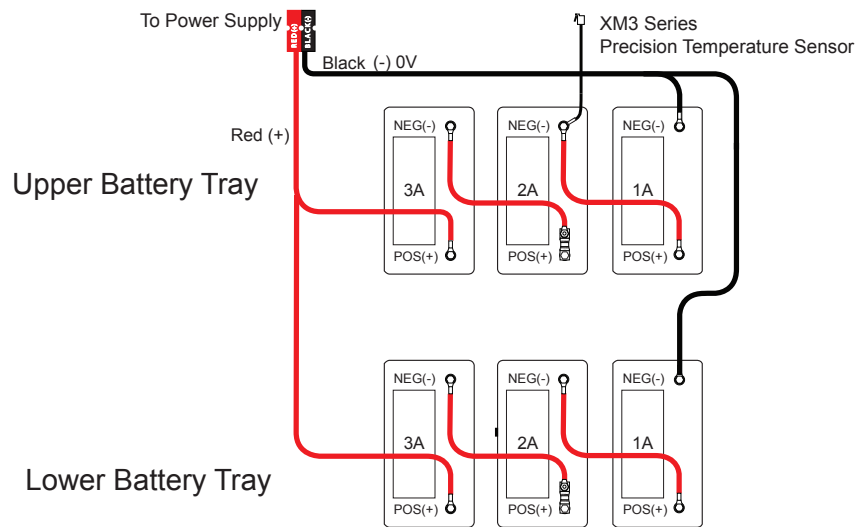
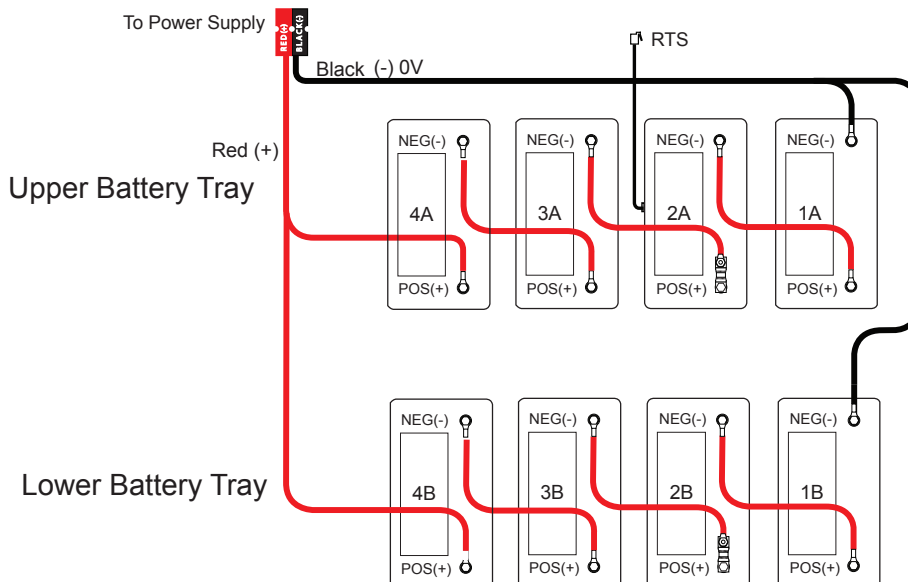

Fig. 3-9, 36V Battery String Wiring
Fig. 3-10, 48V Battery String Wiring
1. Connect the battery strings, as shown in Fig. 3-9 or Fig. 3-10.